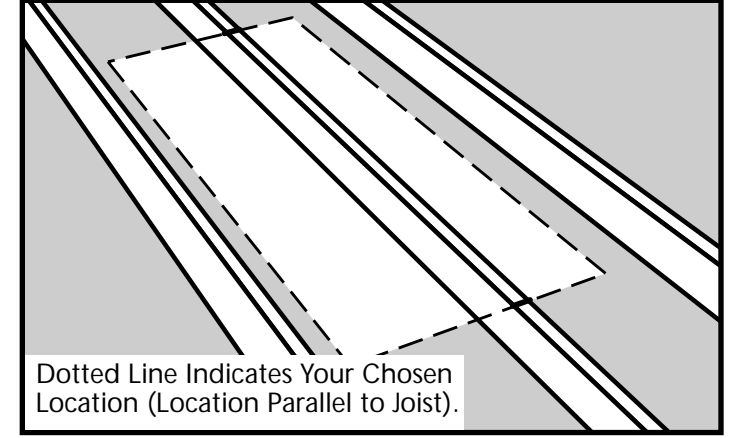

Figure 8
(A) If the chosen location is parallel to the joists, mark the rough opening length on top of the joists as shown in Figure 8. Do not cut the joist at this mark.